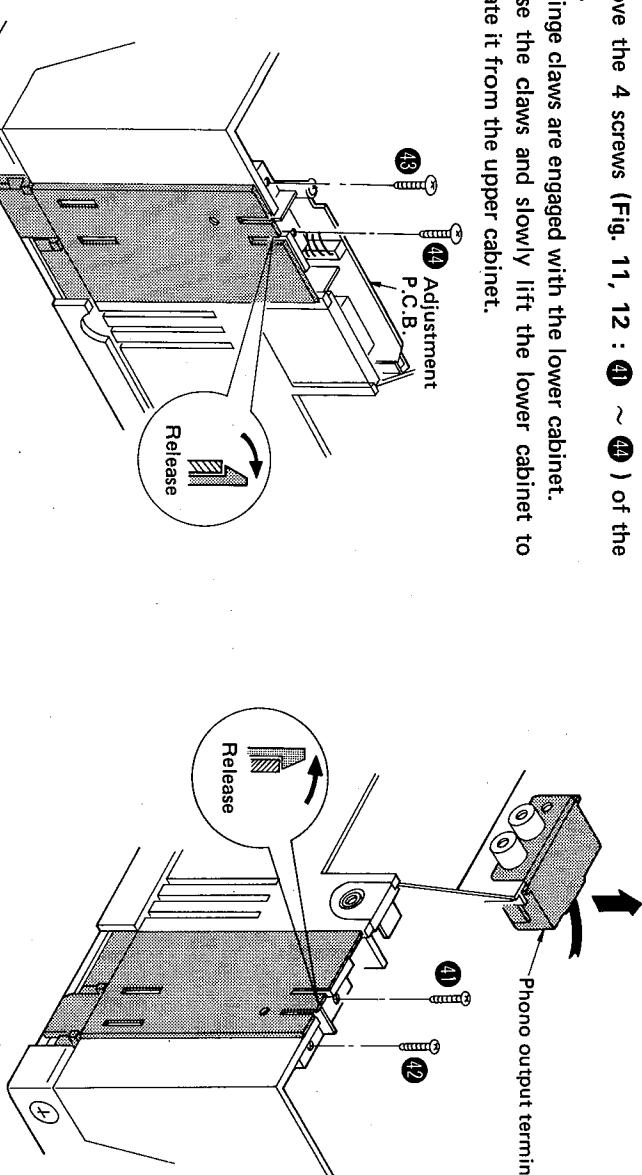

Fig. 8
2. Remove the 3 screws of the tonearm cover (Fig. 8 : ㉘ ~ ㉚) and detach the tonearm cover in the direction of the arrow.